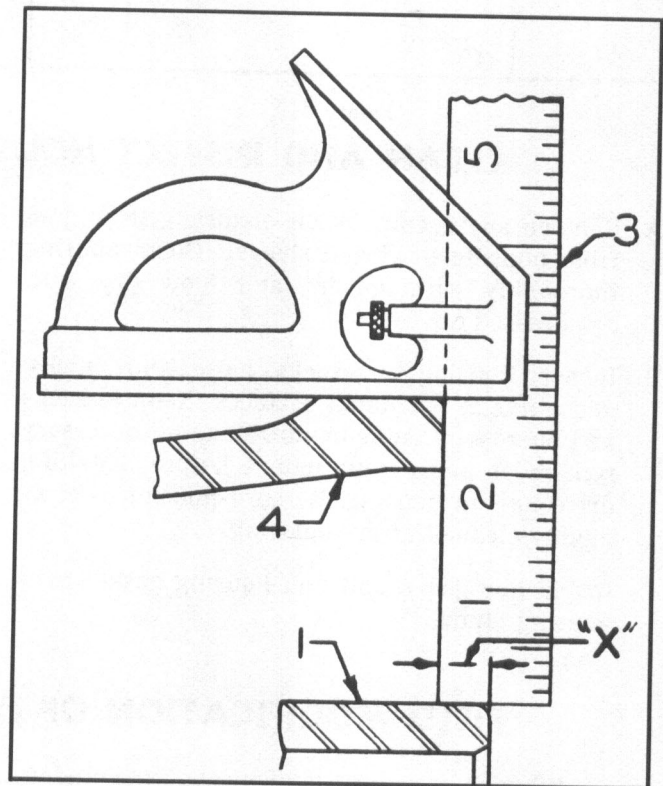

Figure 2
- B. Hold a machinist square firmly against the axle housing flange 4, Fig. 2, directly over the sleeve 1, Fig. 2. Adjust the scale of the square so it will almost contact the top of sleeve. Measure the distance "X", Fig. 2, and record it.